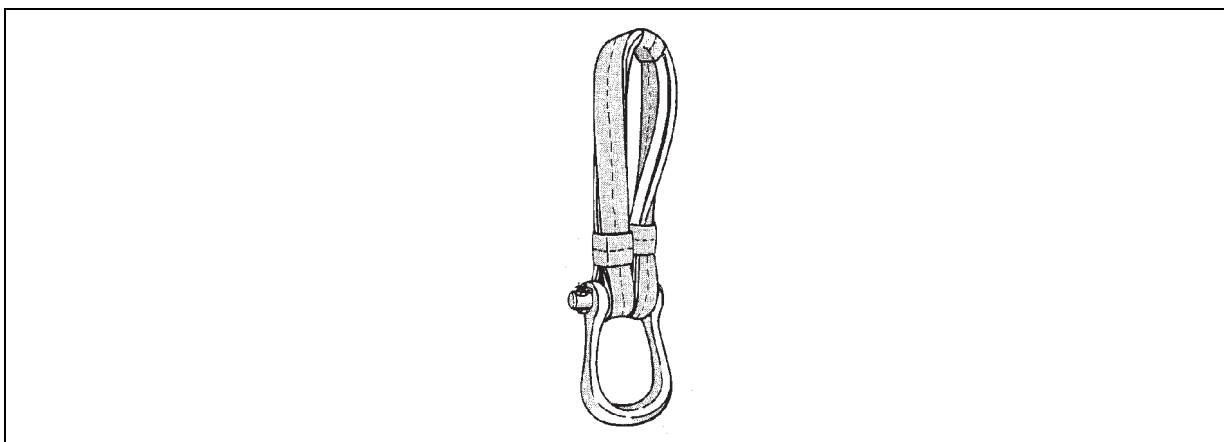

Figure 6-3. Three Foot Sling, Basket-Hitched on an Apex Fitting for a UH-1
- The apex fitting pin is placed directly onto the cargo hook, except for the UH-1. A 3-foot nylon aerial delivery sling or 10-inch nylon donut must be used between the sling and aircraft hook because of the unique shear pin design on the UH-1 hook. Use a basket hitch to place the 3-foot nylon aerial delivery sling on the apex fitting (figure 6-3).